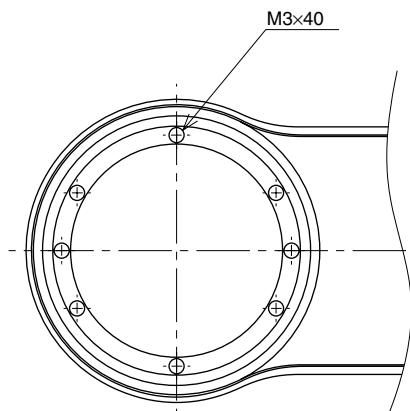

Fig. 5-25
- 11) Remove the Y-axis harmonic drive installation bolts (M3×40L, 8 pieces) from the bottom of the arm. (See Fig. 5-25.)
- 14) Place the new harmonic drive on the X-axis arm, and secure it with the bolts (M3×40L, 8 pieces) you removed earlier. Apply small amounts of “Screw Lock” to the bolts and tighten them uniformly to secure the harmonic drive from the backside. (See Fig. 5-25.)